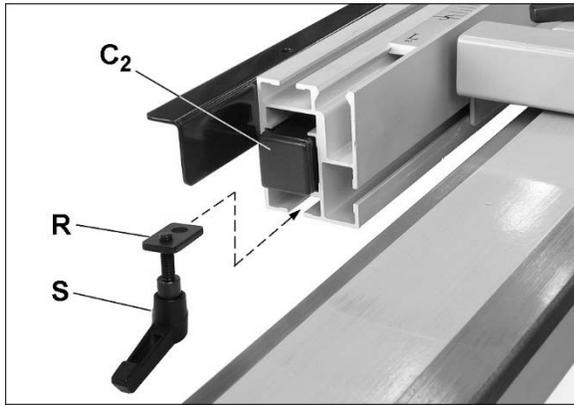

Figure 7-22
5. Insert T-nut with locking handle (R/S, Figure 7-22) into bottom channel of angle adjusting rail. Tighten locking handle to secure push bar ( $C_2$ ).